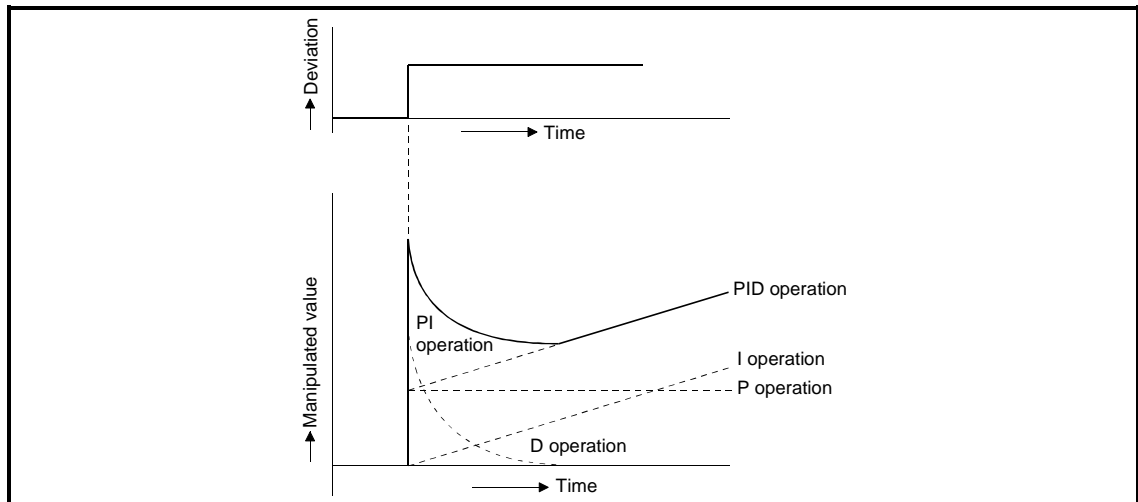

Fig. 1.6 PID operation when deviation is constant
(1) The PID operation controls the calculated manipulated value using (P + I + D) operation.
(2) The PID operation when the deviation is a constant value stepped response is shown in Fig. 1.6.